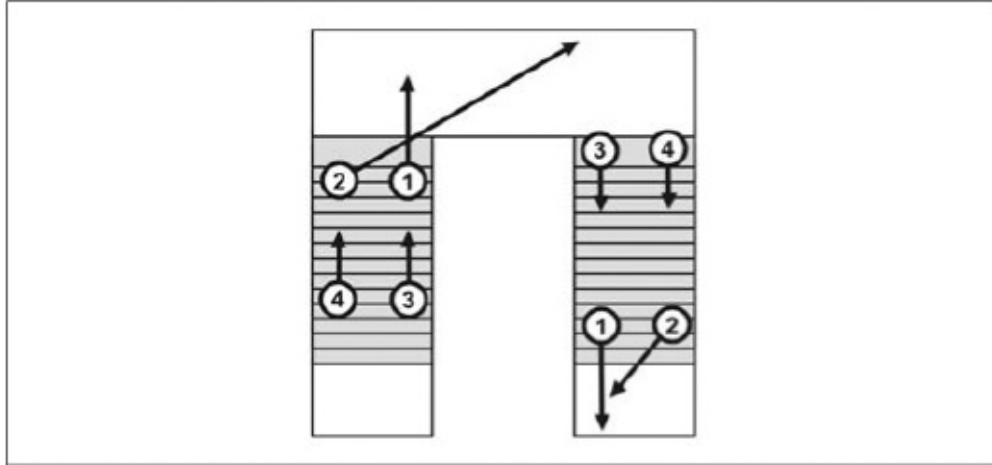

Figure 4-17. Closed stairwell
- c. **Closed Stairwell.** This is any stairwell with walls separating the flights of stairs. Figure 4-17 shows a closed stairwell.